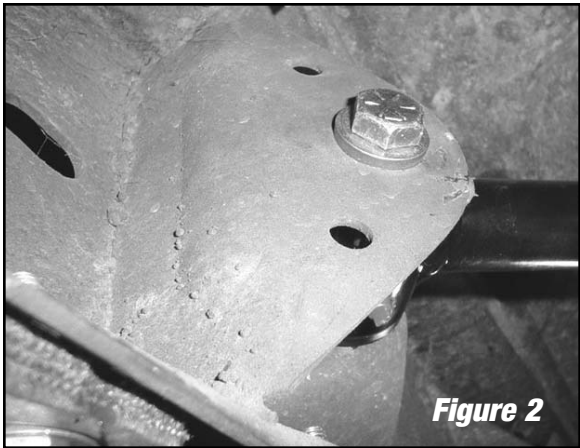

Figure 2
4. Start with either trailing arm and remove the rear bolt. **NOTE:** Replace the bolts in same direction as original *(see Figure 2)*.
7. Pivot trailing arm into position over polyurethane bushing and thrust washer. Install rear bolt in same direction as original. **Figures 2, 3, & 4 show correct installed position of both trailing arms.**